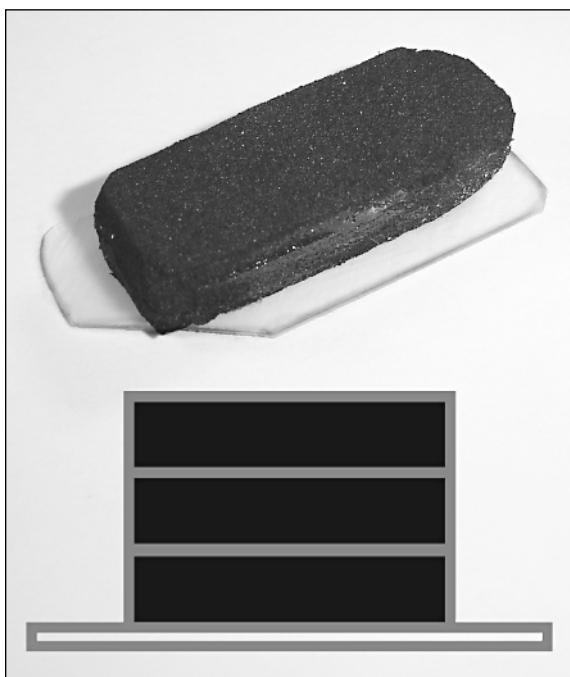

FIGURE 10-30: A completed shoulder button, with side-view cross-section.
3. Cut a thin piece of plastic slightly larger than the foam piece, as seen in Figure 10-30. (Use the same kind of plastic that you used for the select/start button mod.)